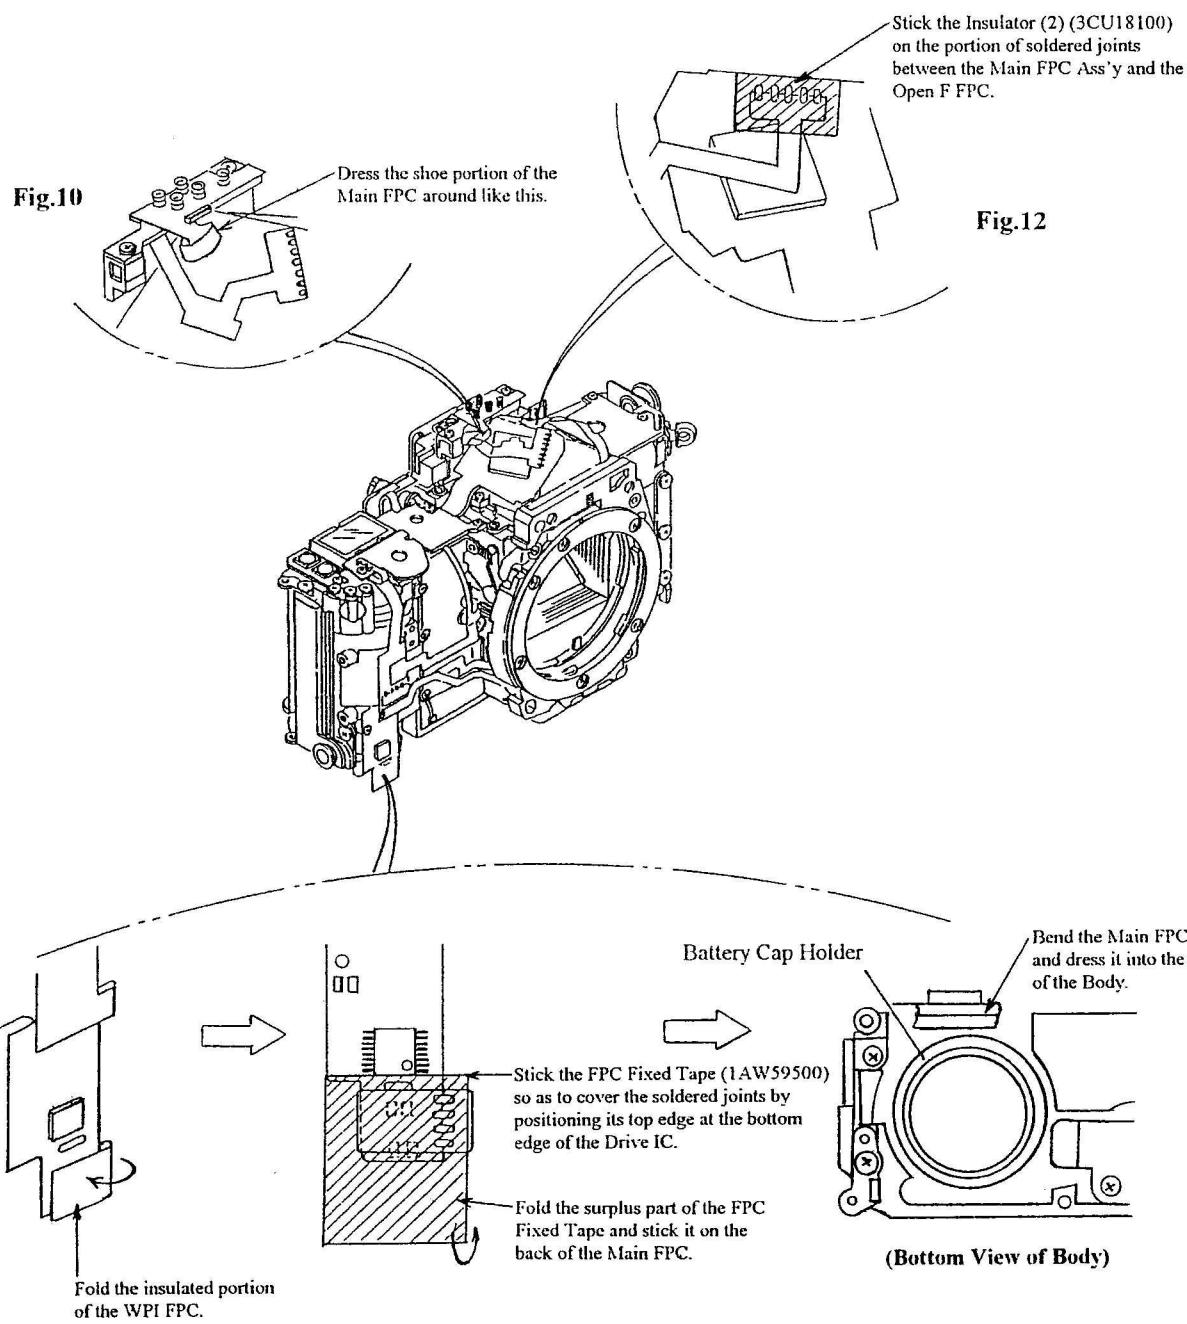

Fig.11
- g) Dress the lower portion of the Main FPC Ass'y as follows : (See Fig. 11)
- ① Fold the insulated portion of the WPI FPC.
- ② Stick the FPC Fixed Tape (1AW59500).
- ③ Fold the FPC Fixed Tape.
- ④ Bend the Main FPC Ass'y and dress it between the Body and the Battery Cap Holder.